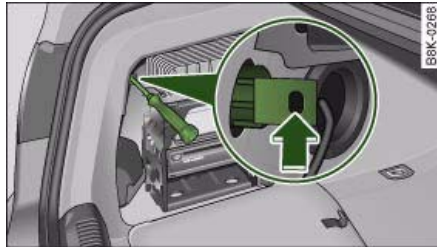

Fig. 252 Luggage compartment: Location of retaining screw for rear light
- Insert the screwdriver (from the tool kit) through the side opening in the plastic screw ⇒ fig. 252.